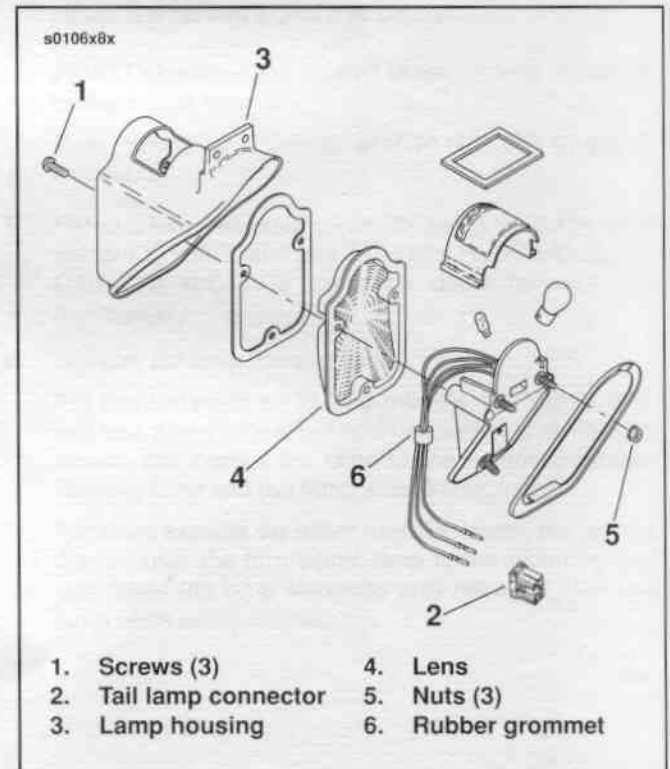

Figure 8-37. FLSTS Tail Lamp Assembly
2. See Figure 8-37. Remove the three lens screws (1) and remove the lens and lamp housing with license plate as an assembly.